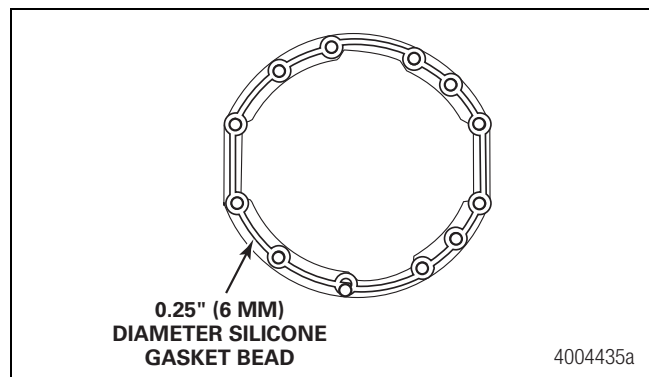

Figure 4.12
10. Apply a 0.25-inch (6 mm) bead of Loctite® 5699 silicone gasket material to the housing face. Do not use ThreeBond 1216E silicone products. Figure 4.12.